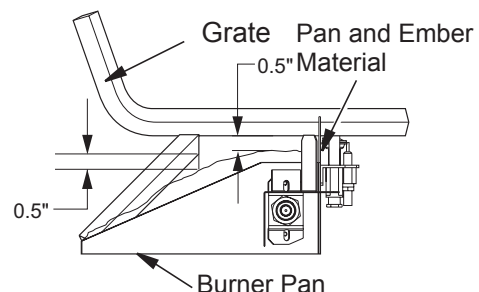

Figure 22 - Pan and Ember Material Clearances
4. Place just enough to cover entire surface and leave about a 1/2 inch gap under lower grate members to allow air to flow (see Figure 22).